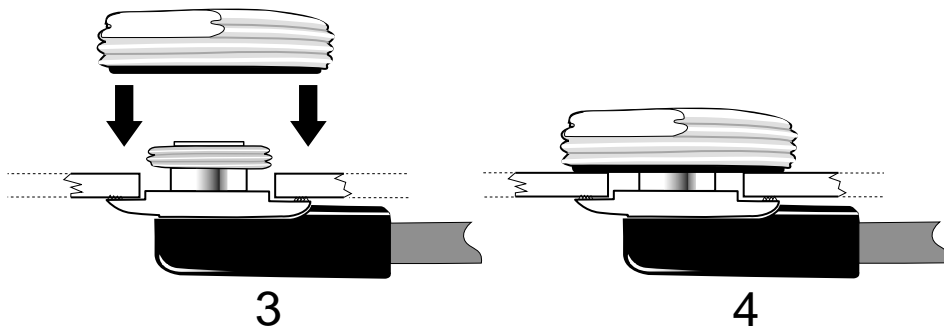

Figure 2.16 Re-installing the Brass Nut
4. Re-install the brass nut from the exterior of the vehicle (see Figure 2.16). Turn the brass nut until the cable mounting assembly is secured in place. The brass nut must make metal-to-metal contact with the vehicle's sheet metal to allow the o-ring to seal properly.